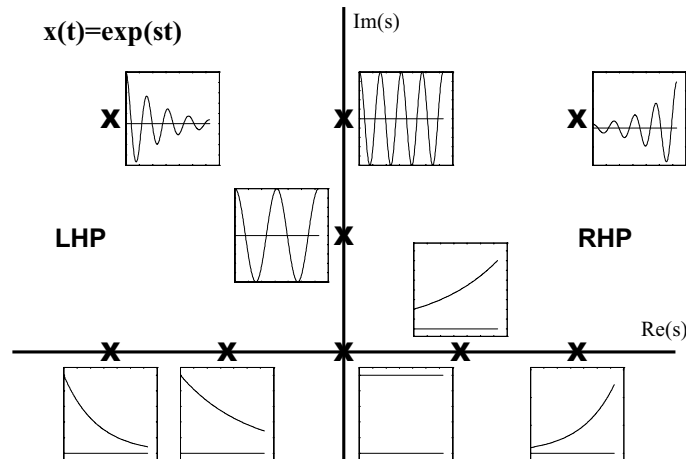

Figure 2: Time functions associated with points in the s-plane
- The role of feedback for the dynamics: the poles of the (open loop) system $H(s)$ can be found by setting the denominator of $H(s)$ equal to zero. For the closed loop system we look at the denominator of one of the closed loop transfer functions; for standard block schemes with $C(s)$ and $H(s)$ this denominator is always equal to $(1 + CH)$. Hence the solutions to $1 + CH = 0$ return the poles in the s-plane. $\text{Re}(s) < 0$ gives stable behavior. The farther to the left, the faster. See figure 2. Furthermore, knowledge of the standard 2nd order behavior is important (see FPE section 3.3 and figure 6.2).